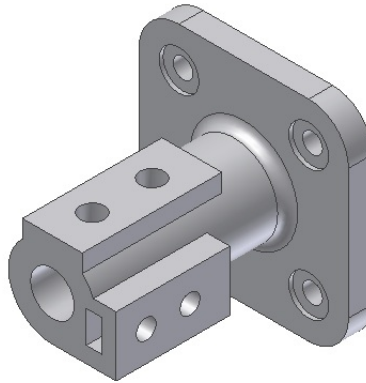

Figure 7-74 Final model for Tutorial 2
- e. Create drilled holes by defining the sketch plane on the required planes. Once all features are created, unsuppress the holes on the base feature, refer to Figure 7-74.
- f. Finally, create the fillet of radius 5 mm, refer to Figure 7-74.
Tutorial 2 after unsuppressing the counterbore holes and creating the fillet is shown in Figure 7-74.